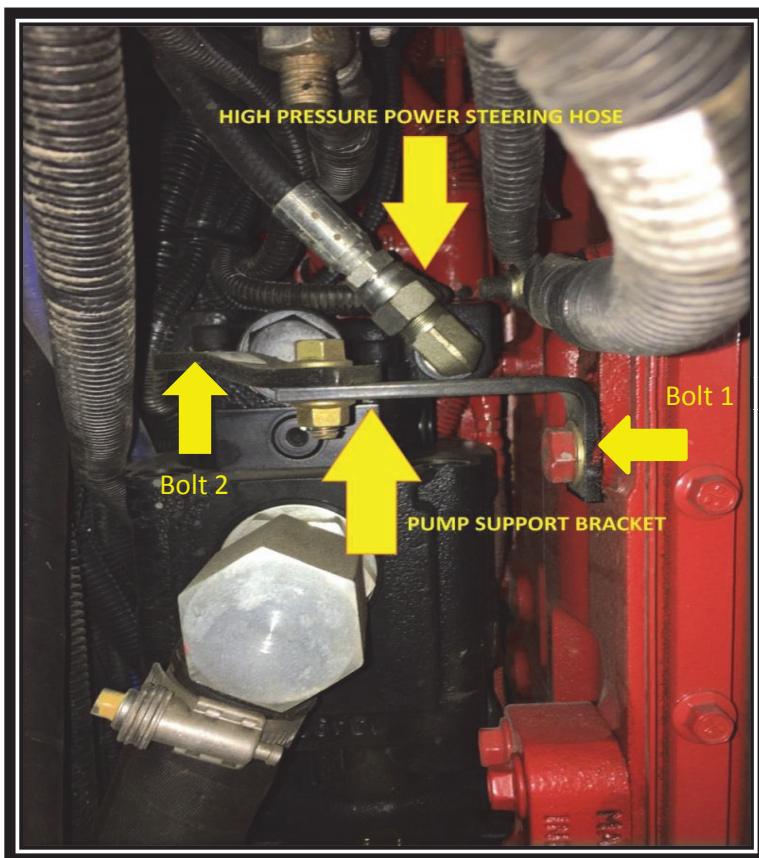

FIG. 6-1
13. Reinstall hex head cover and torque to 90 NM (66.4 lbf-ft). Refer to FIG. 6-1.